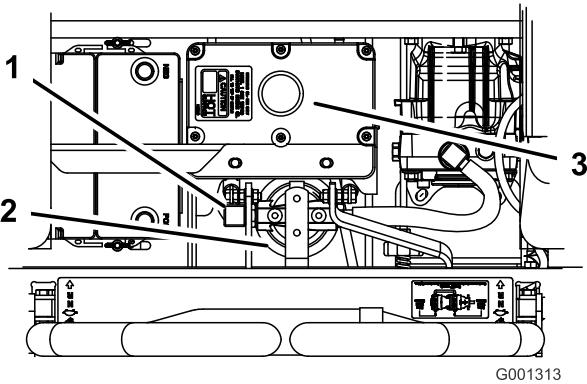

Figure 77
4. Remove the righthand hydraulic line that comes into the adapter (Figure 77).
6. Install the righthand hydraulic line to the adapter (Figure 77).